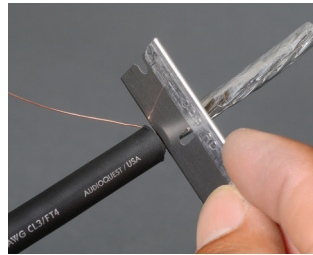
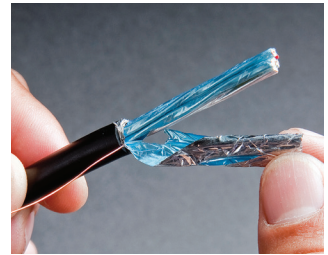

Figure 8.
Figure 9.
Step 3 Using a sharp razor blade, carefully remove the foil by lightly notching the foil along the base (Fig. 8). Be careful to not cut too deep. This will give you enough room so you can loosen up the foil and slide it right off (Fig. 9). A layer of Mylar will come off as well. Now you've exposed the inner workings of the cable with the four twisted pairs and the control wires.